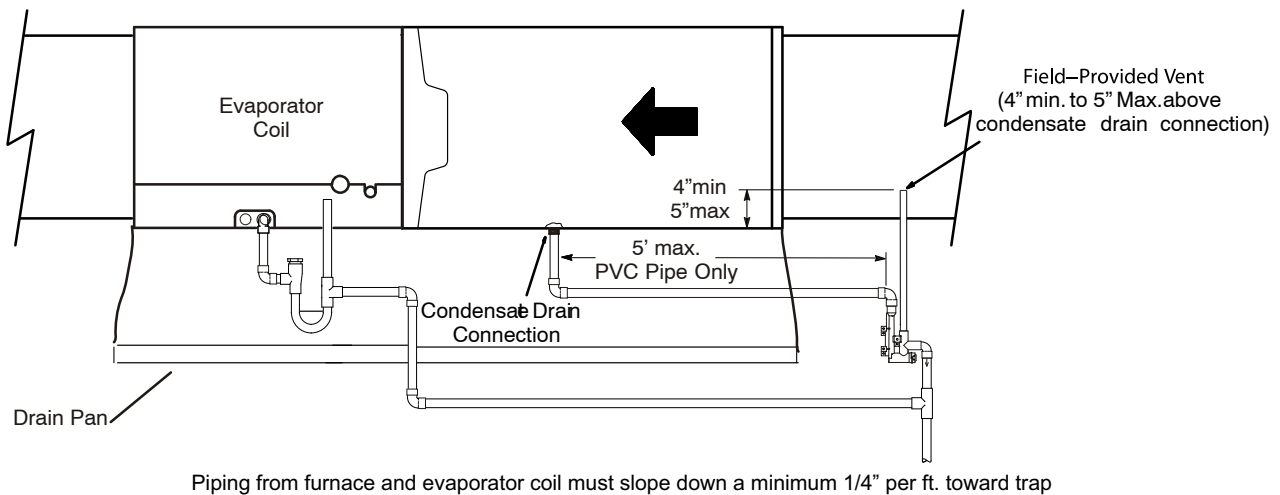

**FIGURE 51**
**Upflow furnace (figure 51)** - In upflow furnace applications the field provided vent must be a minimum 1" to a maximum 2" length above the condensate drain outlet connection. Any length above 2" may result in a flooded heat exchanger if the combined primary drain line were to become restricted.